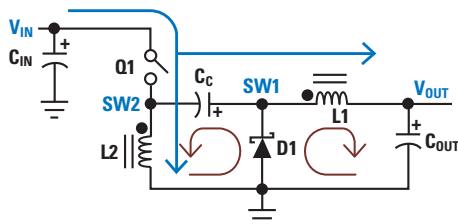
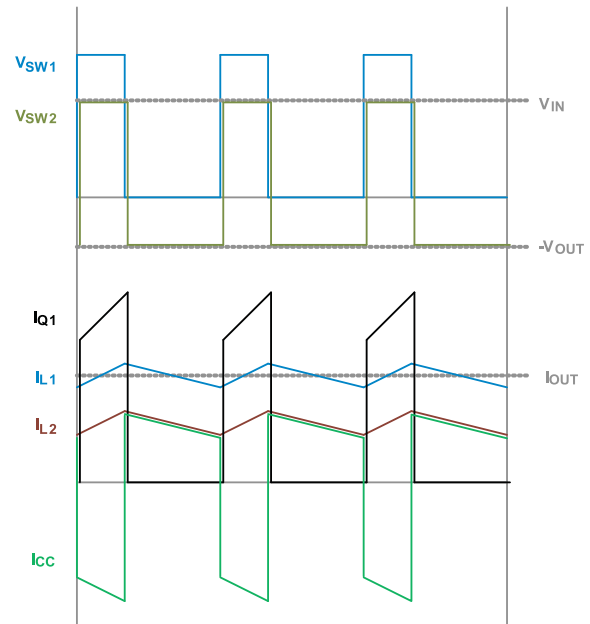

Figure 3. Zeta Converter Operation (Switching Intervals) (Blue: Q1 'on', Red: Q1 'off')
Figure 4. Zeta Converter Operating Waveforms
Zeta converter allows operation with  $V_{IN}$  varying below and above  $V_{OUT}$  while providing short circuit protection. The output capacitor has smaller ripple because of the series inductor at the output. **Figure 3** shows the simplified diagram of a Zeta converter. The coupling capacitor ( $C_C$ ) is charged to  $V_{OUT}$  in steady state. The blue lines show the direction of current during  $T_{ON}$  ( $Q1$  'on') and the dark red lines show the direction of current during  $T_{OFF}$  ( $D1$  conducting). Continuous conduction mode is assumed. **Figure 4** shows the ideal voltage waveforms for switch nodes ( $SW1$ ,  $SW2$ ) and ideal current waveforms in the inductors ( $I_{L1}$ ,  $I_{L2}$ ), switch ( $I_{Q1}$ ), and the coupling capacitor ( $I_{CC}$ ).
**Figure 3** shows  $L1$  and  $L2$  coupled inductors. Coupled inductors may reduce the footprint of the solution under some conditions but are not necessary for the proper operation of a Zeta converter. In applications where the  $V_{IN}$  varies much below  $V_{OUT}$ , the current rating on inductor  $L2$  is significantly higher than the current rating